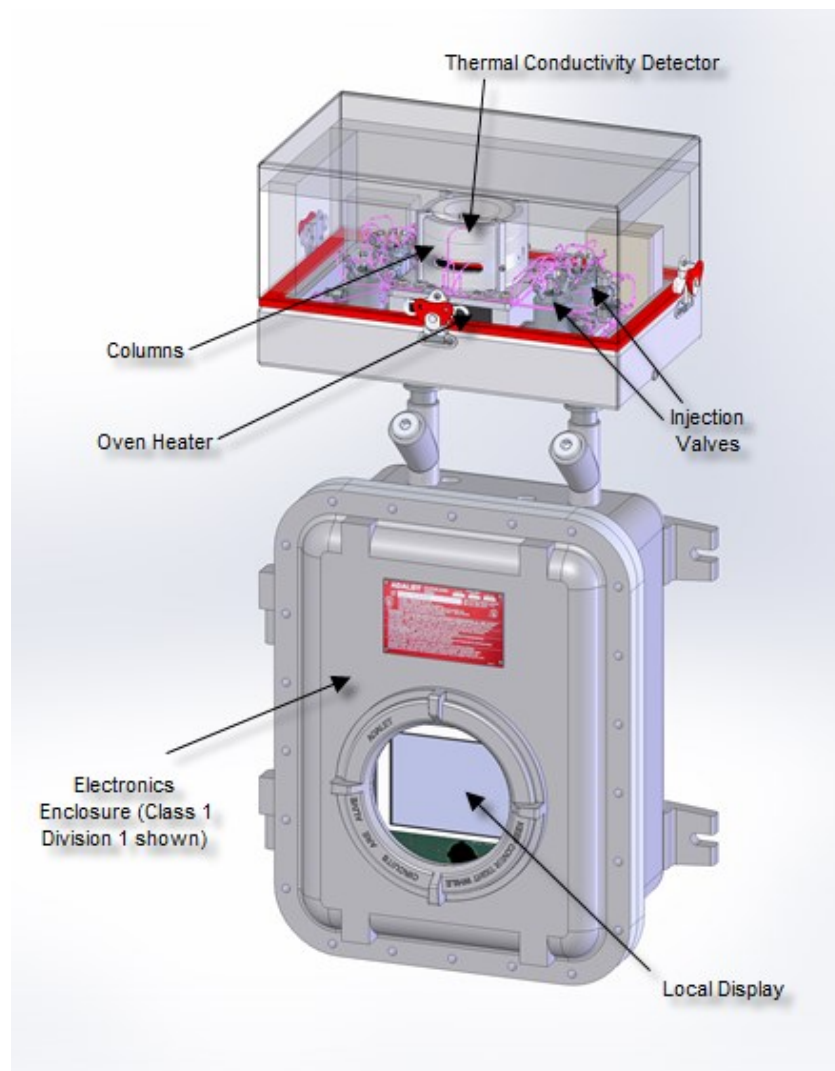

Figure 2-1: Main Components of the AccuChrome Gas Chromatograph Class I Div 1
The standard AccuChrome (Figure 2-1) consists of two compartments. The upper compartment is referred to as the 'chromatograph oven', and houses the components involved in the chromatograph analysis process. The diaphragm valves (6-port valve and 10 port valve), the chromatographic column(s), and the thermal conductivity detector (TCD) are described further in Section 2.2. A heater maintains a constant temperature within the oven, which is critical for proper separation of the sample gasses and the stability of the detector. The lower compartment houses the control electronics.
The electronics enclosure houses the controller board, the I/O board and the display. Class I Division 1 models also have 2 intrinsic safety (IS) barrier boards. Figure 2-1 shows the Class I Division 2 model AccuChrome oven and electronics enclosure.